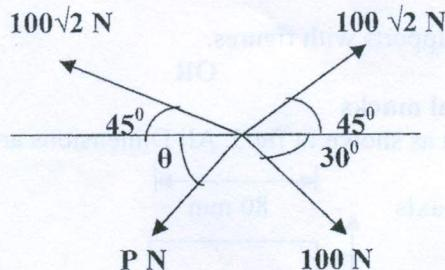

Fig 1 (NOT TO THE SCALE)
- [A] Determine the magnitude and direction of force P which keeps the given system (fig 1) in equilibrium.